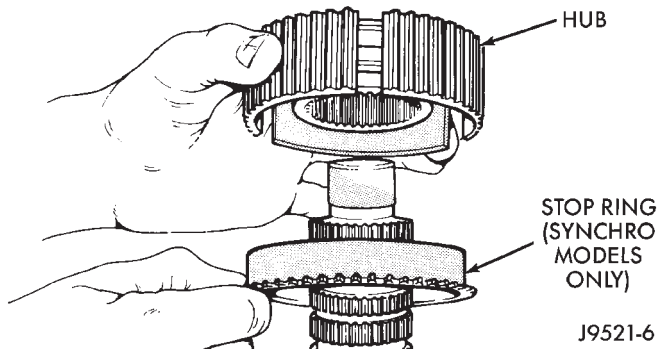

Fig. 15 Hub And Stop Ring Removal
(24) Remove hub from mainshaft. On synchro models, also remove synchro stop ring (Fig. 15).